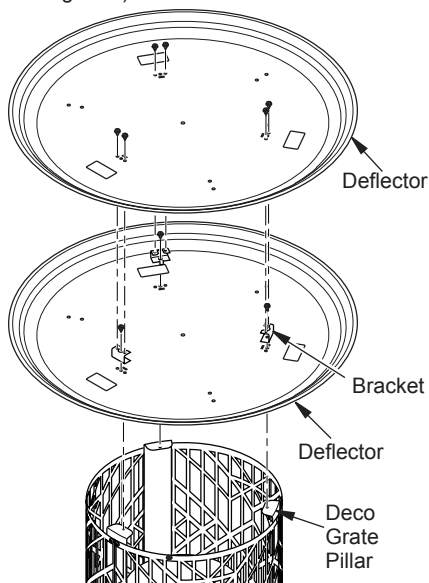

Figure 8 - Deflector Assembly
14. Place one deflector over deco grate pillars. Attach deflector and brackets to pillars with 1 screw (C) through each of the 3 brackets. See Figure 8.
15. Place second deflector over first deflector. Attach deflector to brackets with 2 screws (C) through the top of each bracket (see Figure 8).